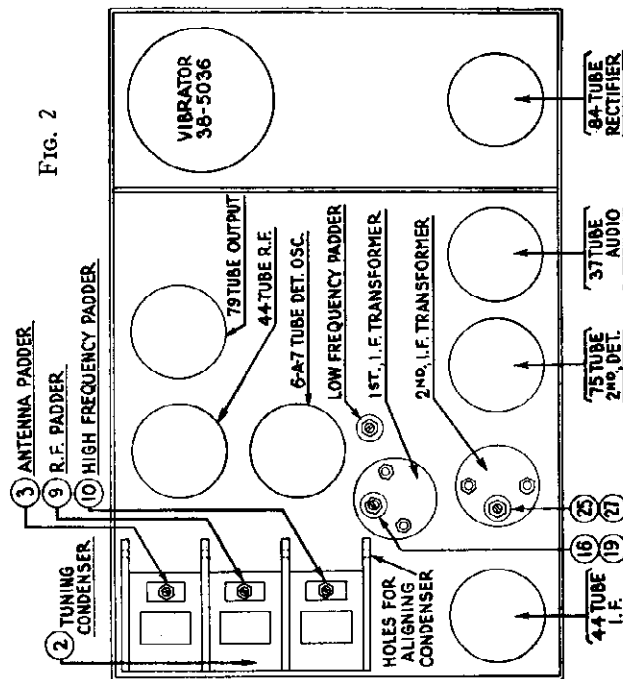

FIG. 2
Remove the speaker lid from the Receiver and disconnect the antenna lead from the Receiver. Remove the grid cap from the 6A7 tube (for location see Fig. 2).
Set up the signal generator and adjust it to exactly 260 K. C. Connect the generator lead to the grid cap of the 6A7 tube, grounding the shield. (See Fig. 2.) The output meter must be connected by means of an adapter to the small prong of the speaker plug and to the chassis.
The padders ⑨ and ⑩ are adjusted first (Figs. 2 and 3). Turn the adjusting screw ② all the way in. A metal screw driver can be used for this. Then, with generator attenuator set so there is approximately half-scale reading, adjust the nut ③ with a fibre wrench for the maximum reading on the output meter.
There are four holes in line, one in each of the sections of the tuning condenser housing. (See Fig. 2.) Place a nail of the size that fits snugly through the holes and then turn the condenser plates out of mesh until they strike against the nail.
At the factory the receiver is carefully adjusted and aligned, and precautions are taken to maintain the accuracy of the adjustment. However, should the receiver ever require realignment the following procedure should be observed. In Fig. 2 the location and description of the various alignment capacitors are clearly illustrated. An External modulated oscillator with a frequency range sufficient to cover the requirements of the receiver should be used for obtaining best results.